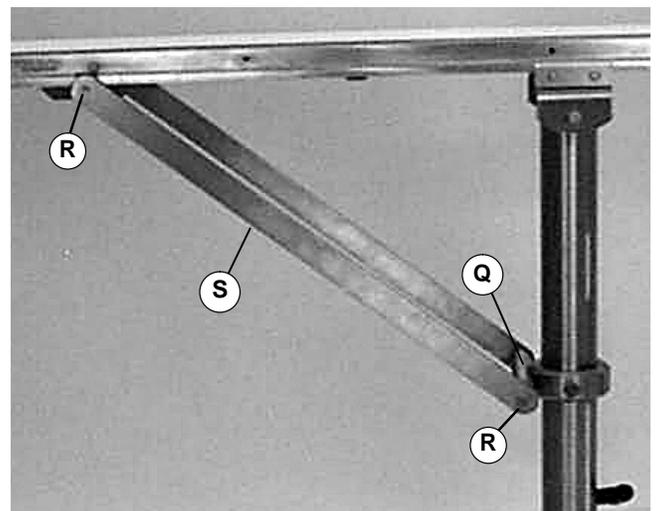

Figure 28
3. Attach each brace (S of Figure 28) to the bar portion of sleeve assembly (Q) with screw (R). Tightly secure all screws (R) with 18 ft-lb (25.5 Nm) torque.